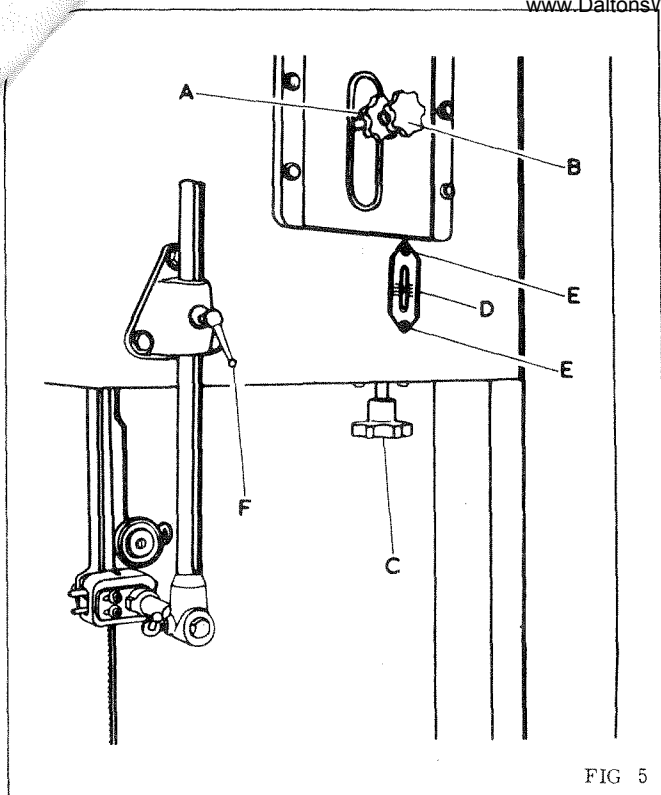

FIG 5
2. If not running central loosen handwheel "A" in Fig. 5 and adjust handwheel "B" until the saw is tracking correctly i.e. in the centre of both wheels.
To tension the sawblade turn the handwheel "C" in Fig. 5 until the correct tension is reached according to the scale "D". The scale gives the correct tension for the width of blade which is being used irrespective of the length of the blade.
2. Check whether the scale indicates the correct sawblade width. If scale is incorrect loosen the two screws "E" in Fig. 5 and position scale correctly. When set tighten all screws. After the scale has been set in this manner it will read correctly for any width of blade within the range of the machine without further alteration, even if the length of sawblade varies for any given width.